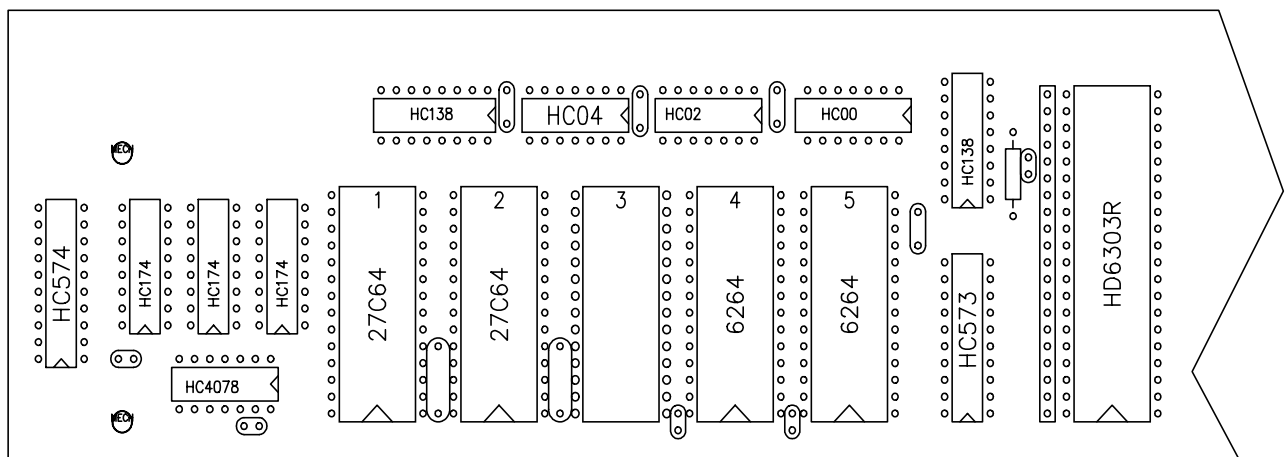

FIGURE A-1. Memory Sockets on the CPU Card
1. PROMS are located at locations 1 and 2 in Figure A-1. To replace a RAM chip, carefully pry the old chip up with a small flat blade screwdriver. Start at one end and then loosen the other, alternating until the chip is free. The new chip should be installed with the notched end in the same direction as the other chips, to the edge of the card (see Figure A-1). Before pushing the chips into the socket, make certain that all pins are correctly seated. Start one side
2. RAM chips are installed in locations 4 and 5 in Figure A-1. The procedure for changing an RMA chip is the same as for a PROM chip - carefully pry out the old chip and insert the new one, being certain that the notch on the chip is toward the close edge of the card and that all pins are correctly seated in the sockets.